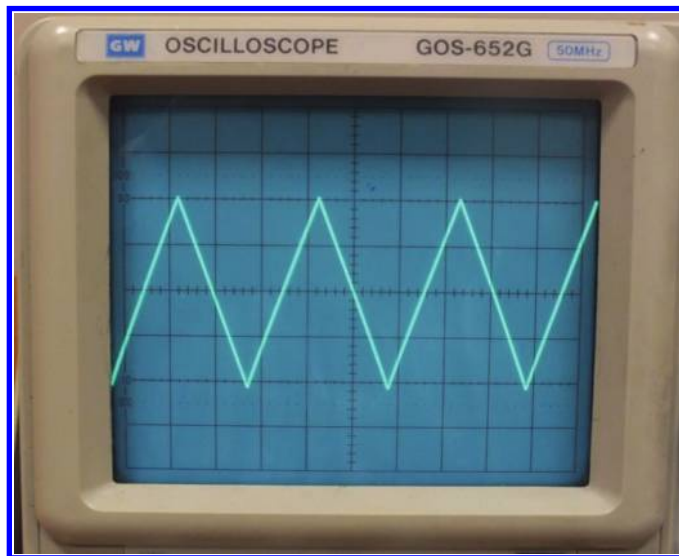

Figure 4.42: A triangular waveform.
**Example 4.1** Assume that you saw the waveform shown in Fig. 4.42 on CRT of an analog oscilloscope. The VOLT/DIV is set to 0.5 V and TIME/DIV is set to 0.2 ms. Find the amplitude and frequency of the signal. Assume that the oscilloscope probe is in the  $\times 10$  mode.